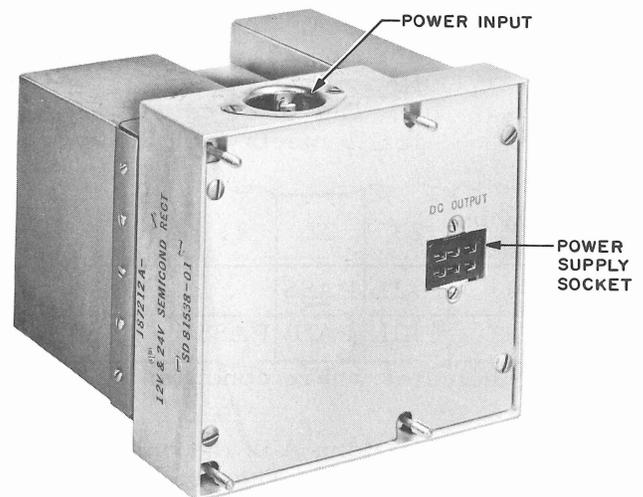

Fig. 1 - Data Set 201A Power Supply (Removed from Set)
2.04 If either or both power supply tests fail, remove the power supply from the data set chassis (see Fig. 1). Connect power supply to a 117-volt 60 cps ac source. Measure + supply between pins 4 (GRD) and 3 (+12) on power supply socket. Reading should be more positive than +12.8 volts dc. Measure - supply between pins 4 (GRD) and 5 (-12). Reading should be more negative than -12.3 volts dc.